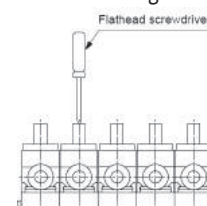

Figure1 Manifold piping with space-saving
- Screwdriver should be used for turning around the upper lever "-". (Figure 1)